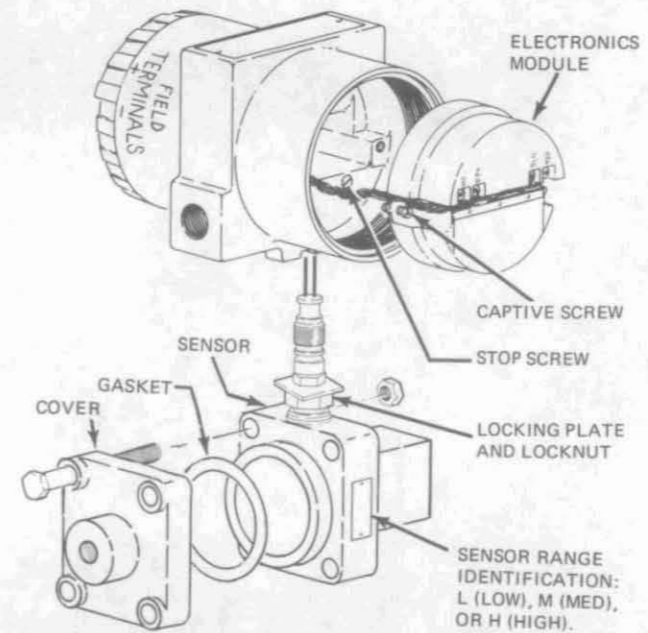

Figure 27
2. Disconnect violet and gray wires from terminals on electronics module. Loosen captive screws on module (Figure 27).